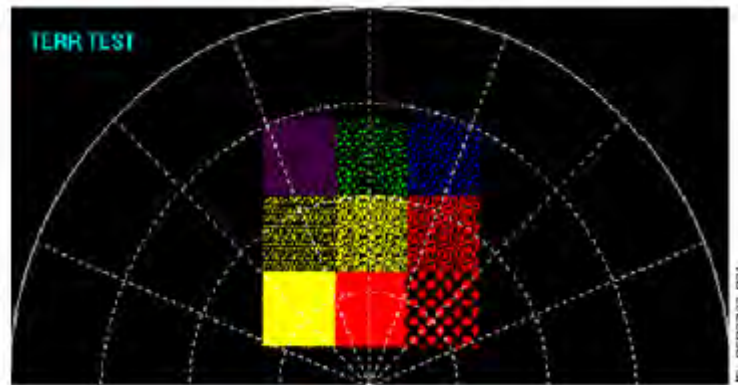

Figure 1-37: TAWS Display Test Pattern
The T³CAS unit will display a multicolor test pattern on both the captain's and first officer's TAWS displays. Figure 1-37 shows a typical multicolor test pattern.
NOTE: Each colored-square in Figure 1-37 represents a texture terrain image slice (2 through 6) as well as the pull-up area texture (P), avoid terrain area texture (A), and caution area texture (C) as defined in the ASDB SRS, Airplane Personality Module. Slice 1 is black in color therefore it is camouflaged into the background.